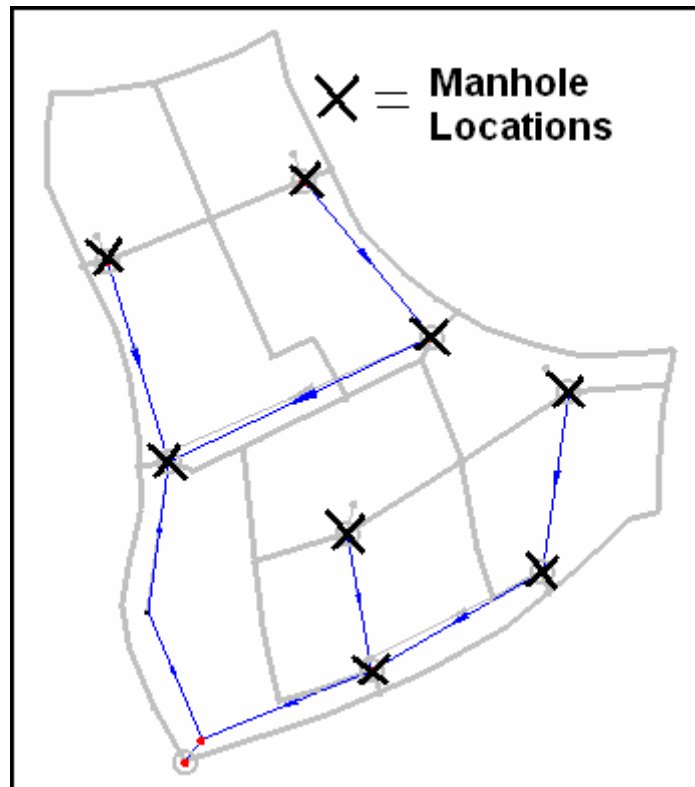

Figure 6-4: Manhole locations.
6. Multi-select the nodes indicated in Figure 6-4 as Mahhole Locations by holding down the SHIFT key as you select each node